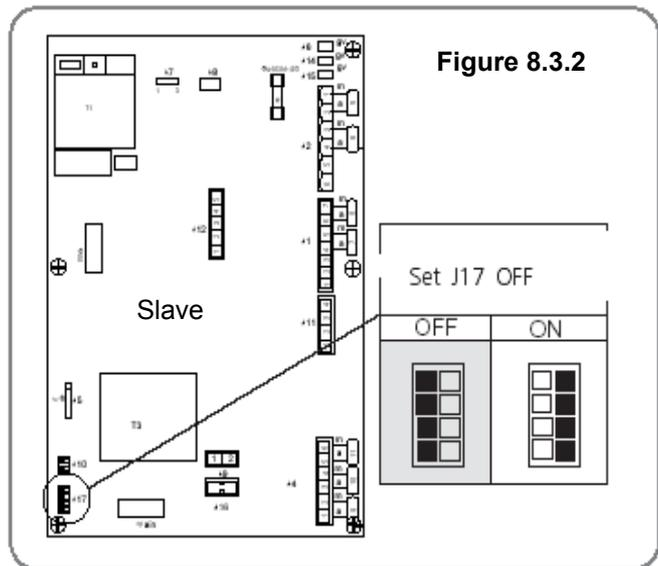

Figure 8.3.2
8.3.2. Set all four J17 switches located on each Slave to the OFF position - see figure 8.3.2